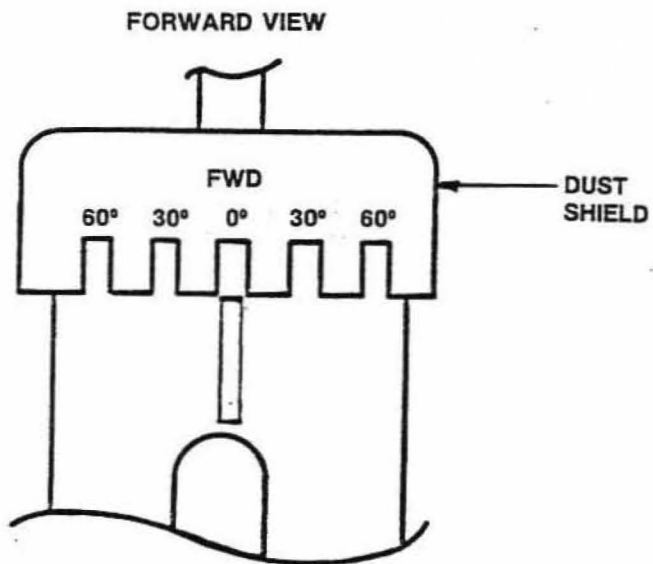

Figure 3A. Alignment of wind vane dust shield.
- A. The wind vane's dust shield must be aligned. Turn the dust shield (see Figure 3A) until the FWD 0° notch matches the white alignment mark on the sensor's upper body.